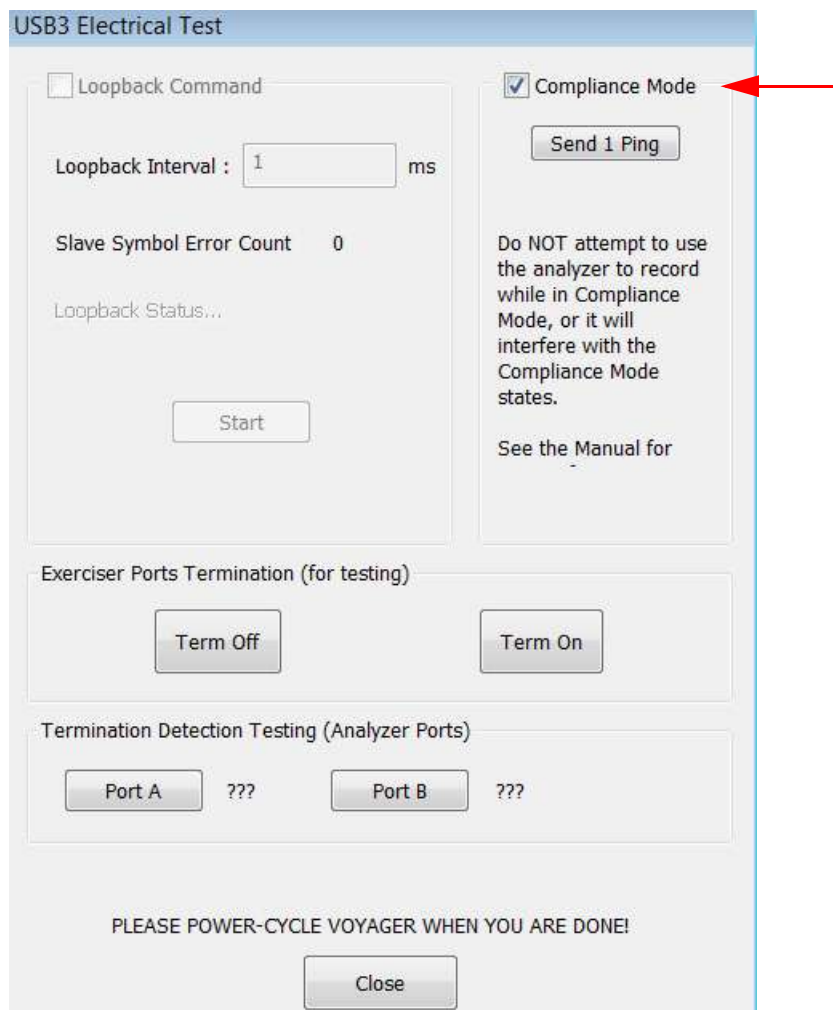

Figure 12.35: USB 3.0 Electrical Test Dialog
4. In the USB 3.0 Electrical Test dialog, check the **Compliance Mode** box (see Figure 12.35 on page 726.)